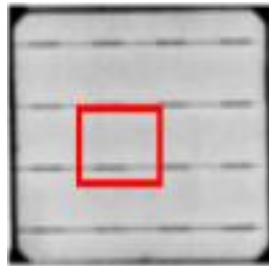

fig.1
(1) Intercept the original image (fig.1) from the center of two bus-bars of cell, and the paste the image on the gray scale to make gray level recognition;